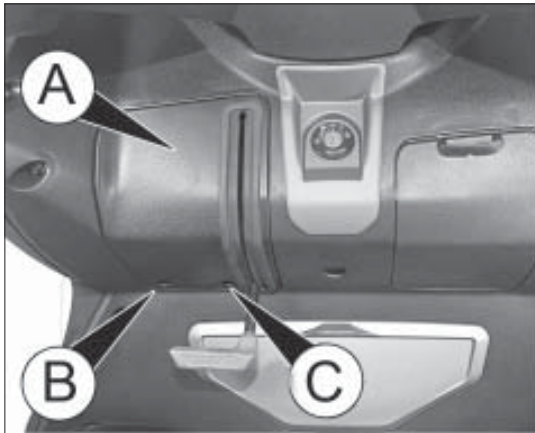

fig. 8
- remove cover A fig. 8 by unscrewing screws B and C;